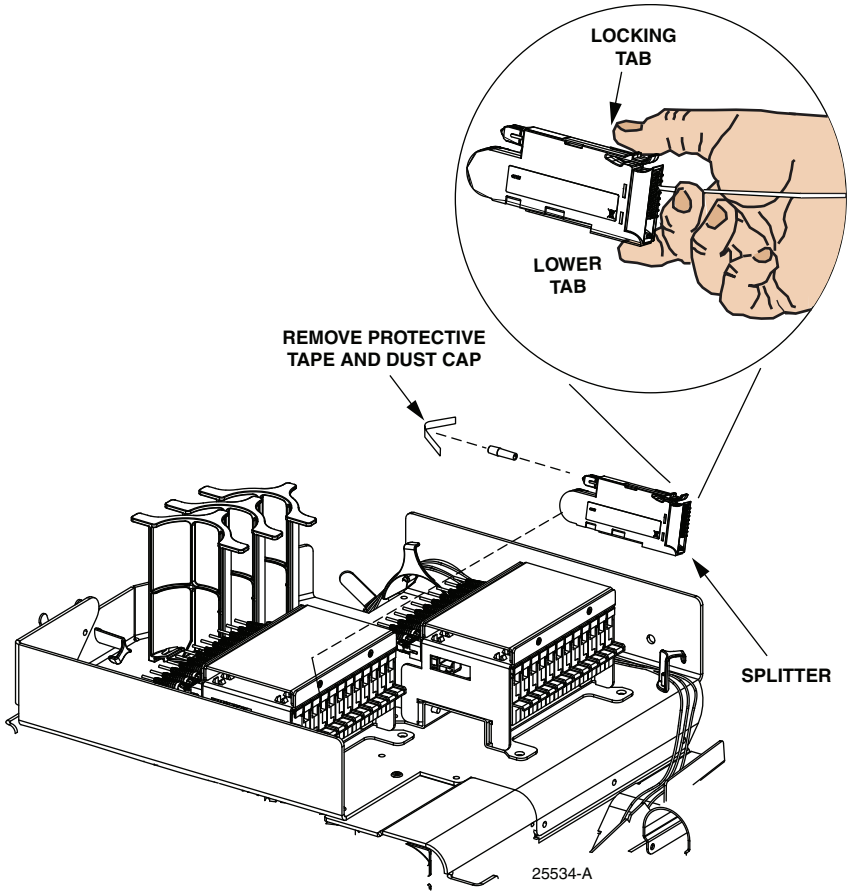

Figure 11. Splitter Installation
7. Remove the protective tape and dust cap from the splitter connector as shown in Figure 11.
9. Grasp the splitter using thumb and forefinger (see Figure 11) and gently squeeze the locking tab.